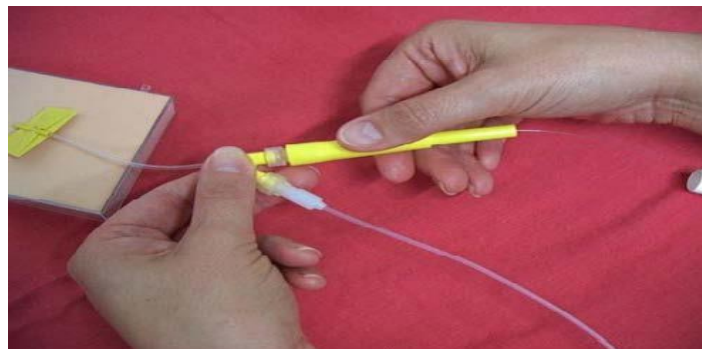

Fig 11.
8. Grip "Y" connection with one hand and the yellow needle encasement with the other hand (Fig 11.)